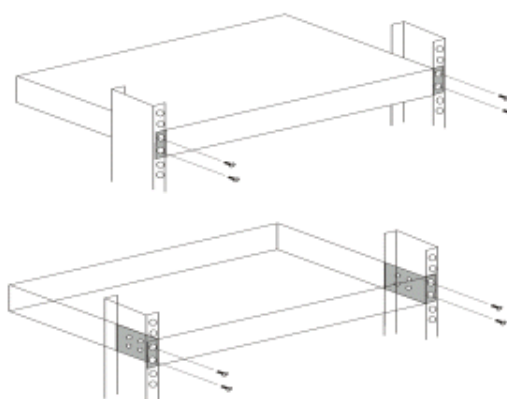

Figure 2-1. Switch Rack-mounting
Step 2. Align the mounting holes in the brackets with the desired holes in the rack, and insert suitable screws (not provided along with the Managed Switch) through each bracket and into the rack. (See Figure 2-1)